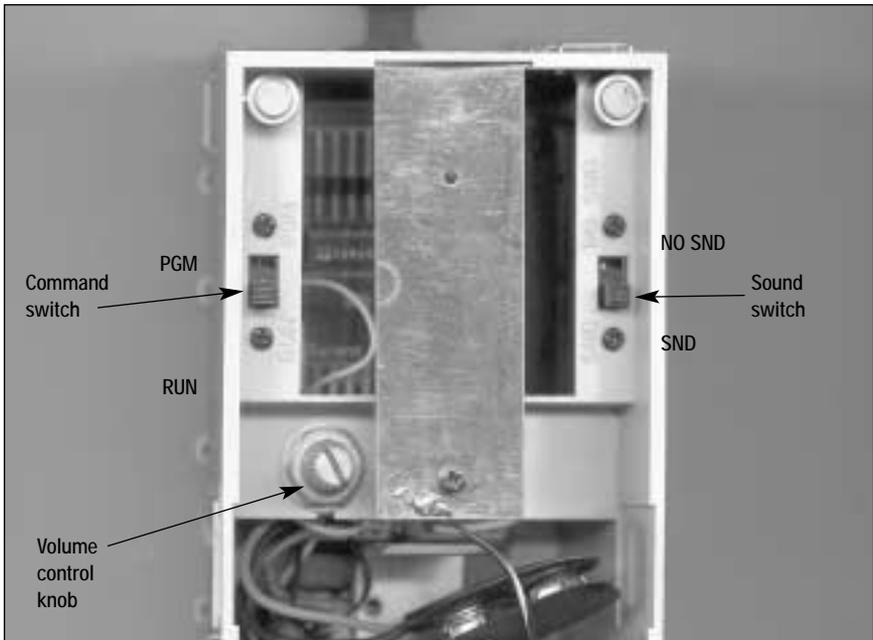

Figure 1. Switch locations
1. With track power off, place the Boom Car on the track. Be sure that the RUN/PROGRAM switch is in the RUN position. See Figure 1.
Use your CAB-1 Remote Controller to activate the sounds and operate the crane. To silence the sounds, lift off the Boom Car's roof and slide the SOUND switch to the NO SND position. Use the volume control knob located under the roof to adjust the volume. Refer to Figure 1 on page 3 for the location of these controls.
3. Lift off the roof and slide the RUN/PROGRAM switch to the PGM position. Refer to Figure 1 on page 3.